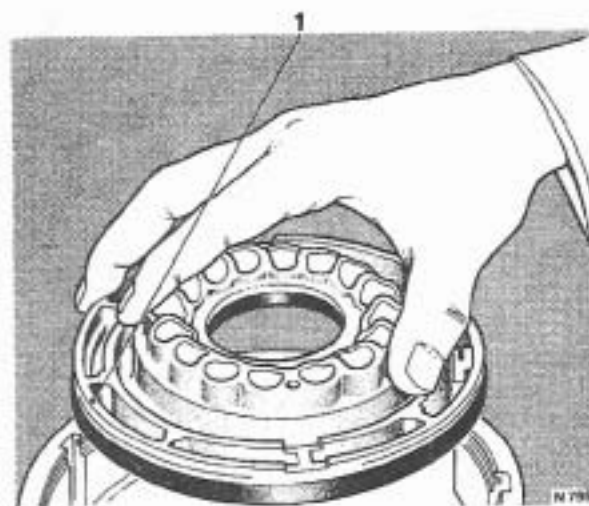

FIG. T245 REMOVING THE FORWARD CLUTCH PISTON
8. Remove the piston from the clutch drum (see Fig. T245).